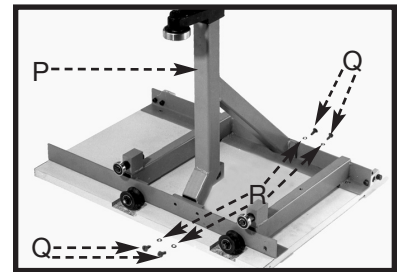

Fig. 29
4. Attach the table support frame (P) Fig. 29 to the bottom of the table assembly using the four 3/4" screws (Q) and 1/4" lockwashers (R).